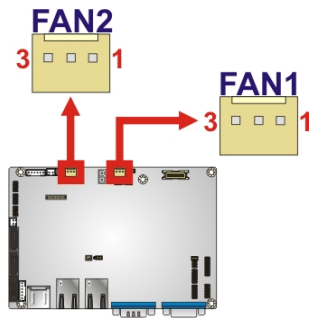

Figure 3-6: Fan Connector Locations
- CN Location:** See Figure 3-6